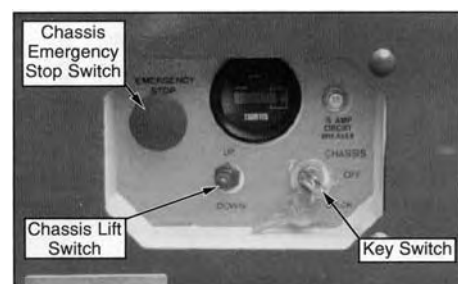

Figure 1: Chassis, Left Side
- 9) Turn Chassis and Platform Emergency Stop Switches ON (Figure 1 & 2) by pulling the button out.
- 10) Turn the Chassis Key Switch (Figure 1) to CHASSIS.
- 11) Push Chassis Lift Switch (Figure 1) to UP position and fully elevate platform.